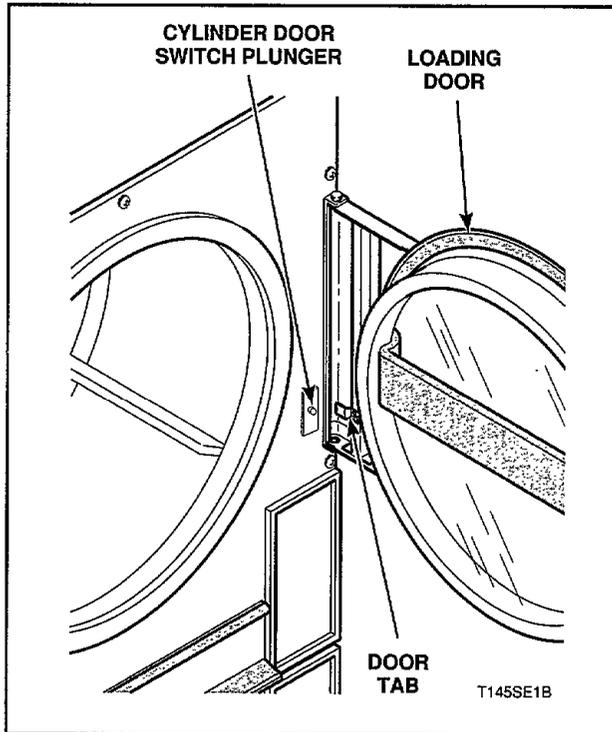

Figure 31
38. CYLINDER DOOR SWITCH (Figure 31)